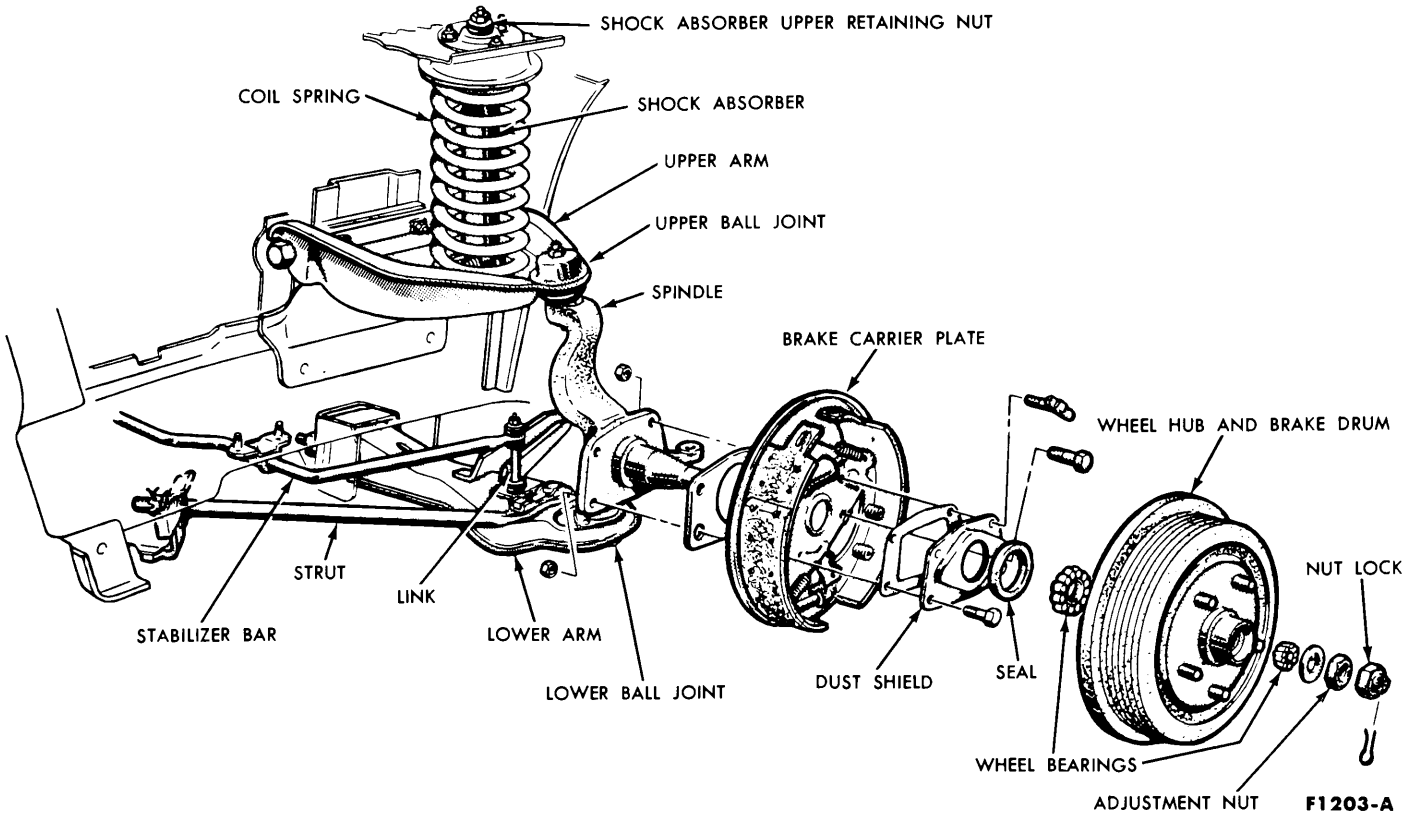

FIG. 1—Front Suspension
pivots on a bushing and shaft assembly which is bolted to the underbody. The lower arm pivots on a bolt mounted in a bracket which is bolted to the underbody (Fig. 1). A coil spring seats between the upper arm and the top of the spring housing. A double-acting shock absorber
2. Remove the link-to-stabilizer bar retaining nut, washers, and insulators, and disconnect the link from the bar (Fig. 1).
3. Remove the four retaining bolts and nuts, then remove the brake carrier plate from the spindle (Fig. 1). Wire the brake assembly to a convenient place on the chassis to avoid breaking the brake hose.